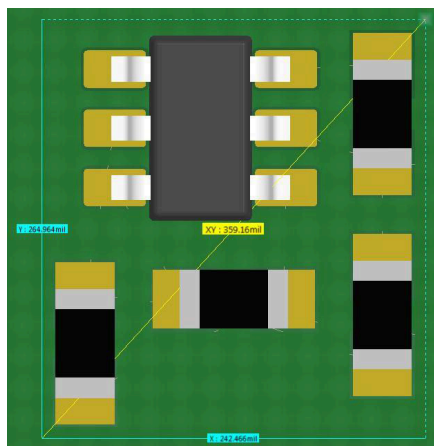

Figure 2-2. TPS3701 Example Layout
- TPS3701:** wide V_{in} voltage detector can monitor voltages up to 36 V and provides 0.25% typical monitoring accuracy. The size of the 6-pin SOT package is 2.9 mm x 1.6 mm and only requires three external resistors to set the fault threshold and at least one external pull-up resistor for the open-drain output as shown in Figure 2-2. The TPS3701 provides both undervoltage and overvoltage monitoring in a convenient single device solution.